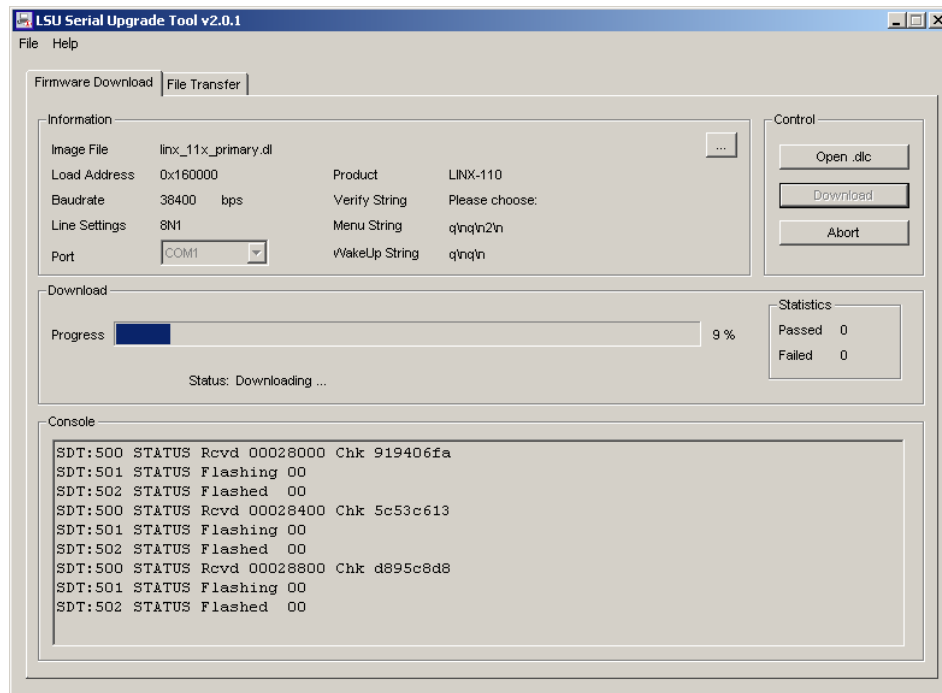

Figure 166: Progress Bar during Firmware Download.
2. If the LINX-10X is not connected to COM1 you can change the port to COM2, COM3, or COM4. Make sure that the product shown under "Product" matches the device you are upgrading. Press **Download** to start the download. A progress bar as shown in Figure 166 can be seen.